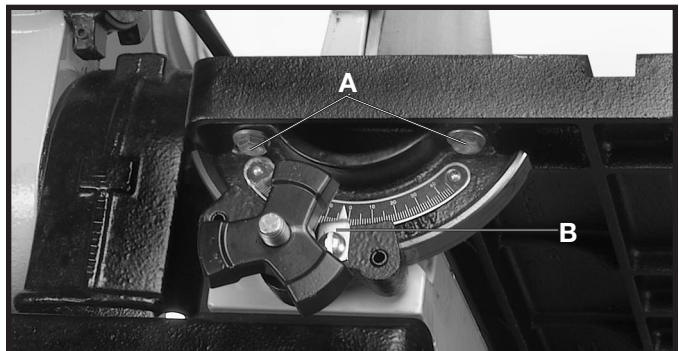

Fig. 25A
3. Adjust the pointer (B) Fig. 25A, so it points to the "0" mark on the scale.
4. If an adjustment is necessary, loosen the four screws (A) Fig. 25A, (two of which are shown), that hold the table to the trunnions and adjust the table until the miter gage groove is parallel with the disc. **NOTE:** When making this adjustment be sure the table locking handles are tightened.